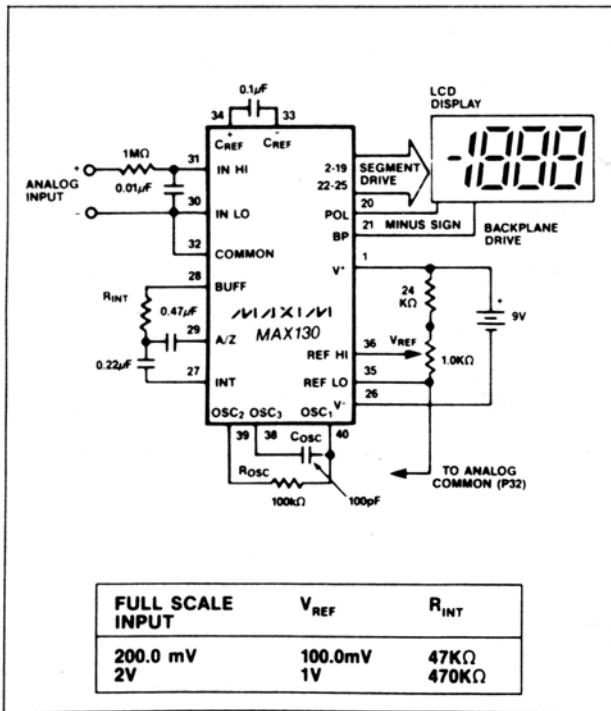
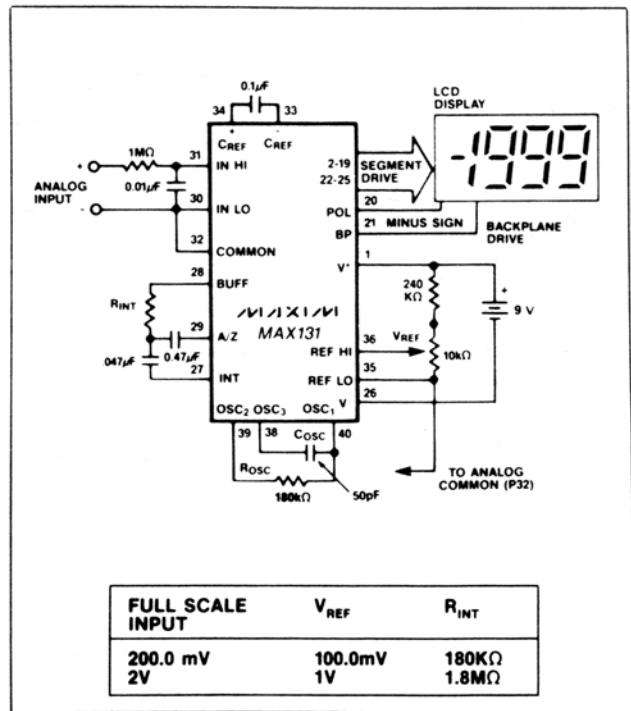

Figure 1. Maxim MAX130 Typical Operating Circuit, 3 Conversions per Second
Figure 2. Maxim MAX131 Typical Operating Circuit, 3 Conversions per Second
(V+ = 9V, TA = 25°C, fCLOCK = 48kHz; test circuit - Figure 1; unless noted)
(V\* = 9V, TA = 25°C, fCLOCK = 48kHz; test circuit - Figure 2; unless noted)
**Note 3:** Test condition is VIN applied between pin IN-HI and IN-LO through a 1MΩ series resistor as shown in Figures 1 and 2.
**Note 4:** 1MΩ resistor is removed in Figures 1 and 2.
Figures 1 and 2 show the basic MAX130 and MAX131 applications circuits. Note that the circuits for the MAX130 and the MAX131 use different values for the integration and oscillator components. The MAX130 can operate using the MAX131 component values, but the MAX131 will not operate using the MAX130 component values. The lower supply current device, the MAX131, must always use the higher value integrator resistor as shown in component value table in Figure 2. With a typical operating current of only 65µA, the MAX131 will operate for about 8500 hours when powered by a typical 550mAh alkaline 9V battery. The MAX130 will operate for 2200 hours with a 550mAh battery.
The MAX130/131 can easily be used with ±5V supplies. Connect V+ to +5V, V- to -5V. If the voltages to be measured are referred to ground, then connect In Lo to ground. In most cases, Ref Hi and Ref Lo should be connected to a resistive divider string between V+ and Common, as shown in the standard application circuits of Figures 1 and 2. If Common is not used to generate the reference it can either be left floating or can be connected to ground. If the MAX130/131 oscillator is driven by 5V logic, or if the MAX130/131 LCD outputs drive 5V logic, then connect the Test pin to ground. If the MAX130/131 open circuit Test voltage is above ground, then connecting Test pin to ground will set the internal digital ground to approximately ground. If, however, the open circuit Test voltage is negative, then the internal digital ground voltage will remain negative, additional V+ supply current will be drawn, and the LCD segments will continue to swing